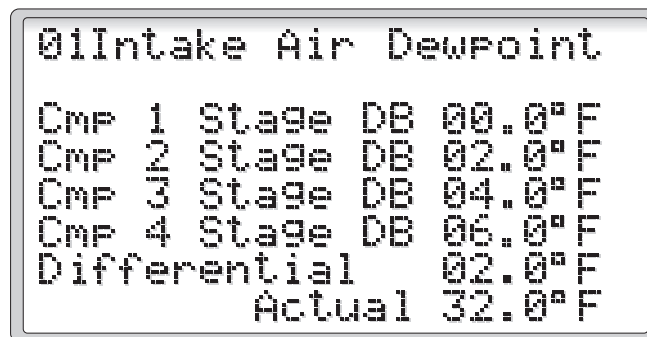

Figure 35
2.3.3.1.1 Intake Dew Point (Figure 35)
Selecting the Intake Air Dew Point will display the screen shown in Figure 35. The dew point dead bands are set here as well as switching differential. These settings may depend on other dehumidifiers conditioning the zone. Check the settings of the other dehumidifiers before altering these settings.